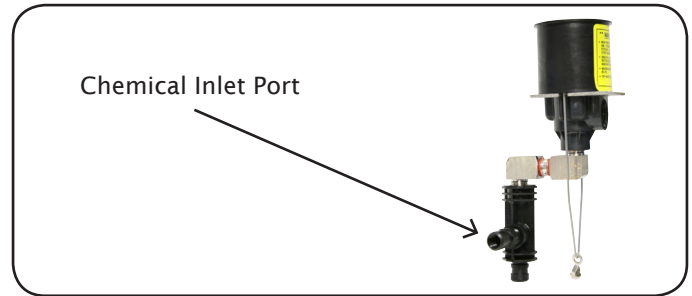

figure 4
1. Select the proper mix tip for chemical and screw into chemical inlet port on Hydrominder. **(Fig. 4)**